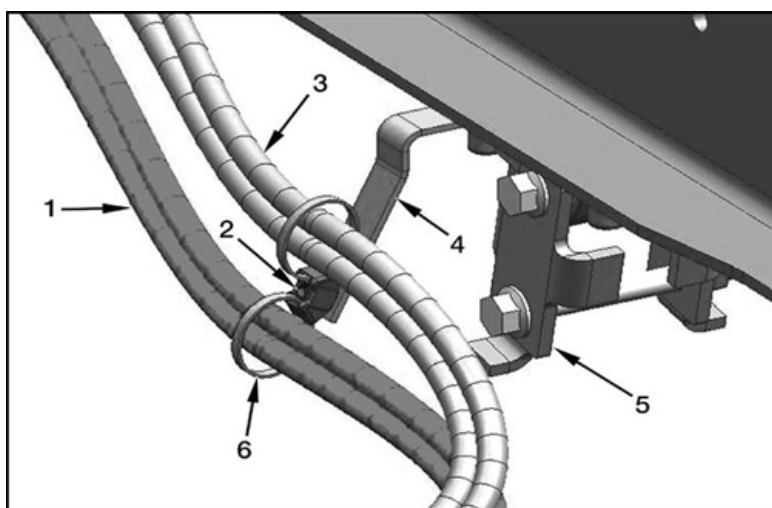

Figure 2: Completed Repair
3. Reroute cables as shown in Figure 2 following the Steps below.
- c. Install the saddle on the inboard side of the harness mounting bracket as shown in Figure 2 using the lower bolt hole.